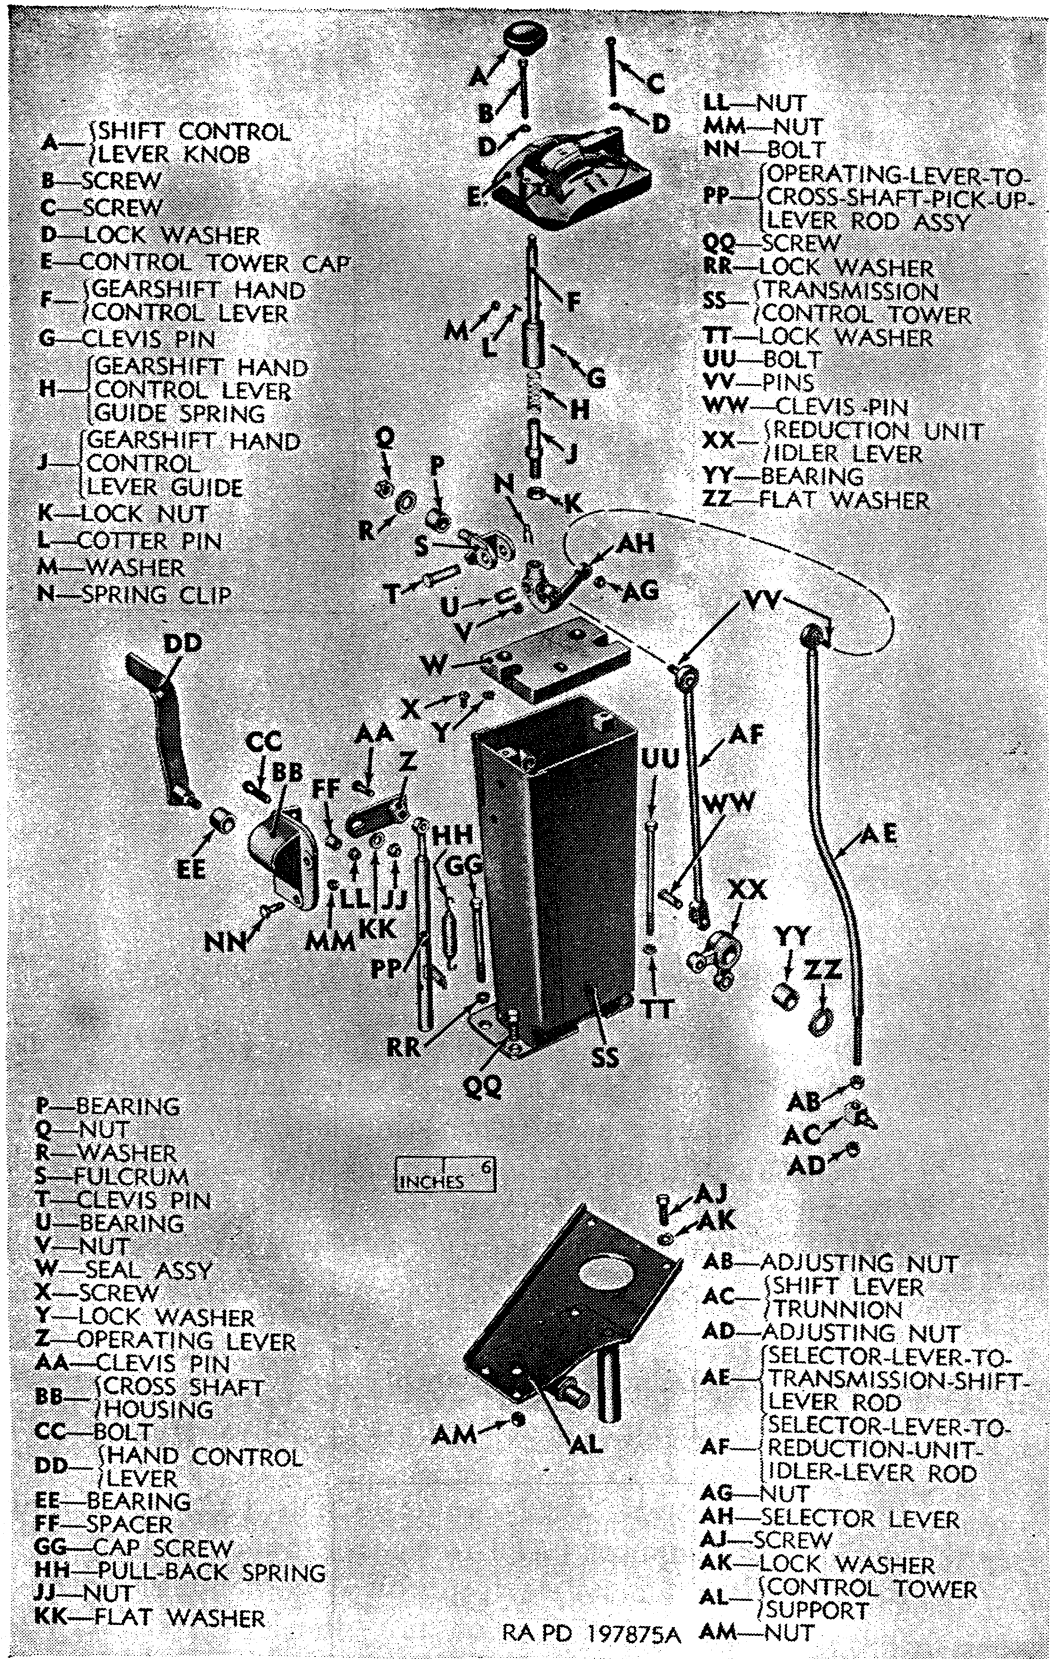
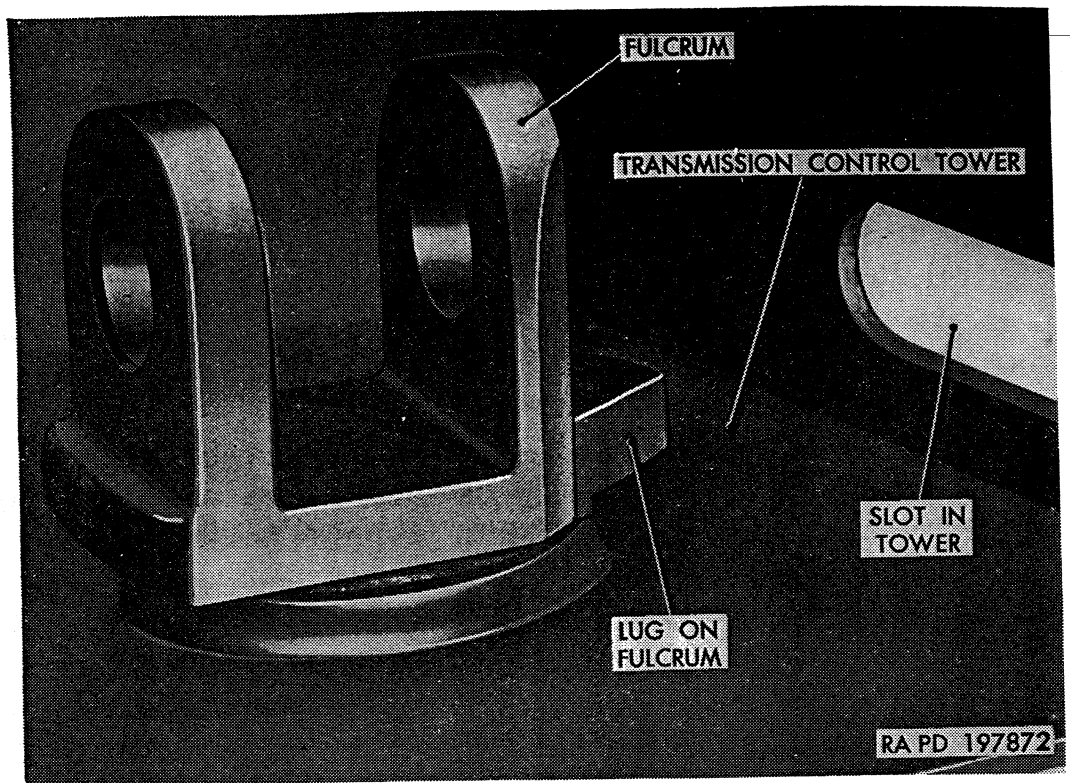

Figure 201. Control tower components.
Figure 204. Positioning lug on fulcrum.
- (d) Attach reduction unit control rod (L) to reduction unit idler lever (M) with clevis pin and cotter pin. Adjust rod if necessary (par. 202c).
- (e) Attach transmission shift lever trunnion (F) to transmission shift lever (H) with  $\frac{5}{16}$ -24 safety nut (G) and 0.083-inch thick lockwasher. Adjusting nuts (E) (par. 202c).
*Note.* The key letters noted in parentheses are in figure 201.
- (1) Remove transmission control tower assembly from vehicle (a(1) above).
- (2) Remove two screws (QQ) and two nuts (AM) attaching control tower support (AL) to control tower (SS).
- (3) Remove cotter pin and clevis pin (WW) attaching transmission-selector-lever-to-reduction-unit-idler-lever rod (AF) to idler lever (XX); then remove tower support (AL) from control tower (SS).
- (4) Remove cotter pin and flat washer (ZZ) attaching reduction unit idler lever (XX) to control tower support (AL); then remove idler lever from support.
- (23) Remove gearshift hand control lever guide (J) and gearshift hand control lever guide spring (H) from gearshift hand control lever (F).
- (24) Remove nut (Q), washer (R), and fulcrum (S) from control tower (SS). Remove bearing (P) from control tower (SS) only if inspection shows necessity for replacement.
- (25) Remove two screws (X) and lockwashers (Y) attaching seal assembly (W) to control tower (SS). Remove seal assembly from control tower.
*c. Assembly (fig. 201).*
- (1) Position seal assembly (W) in transmission control tower (SS) and attach with two  $\frac{1}{4}$ -28 x  $\frac{3}{8}$  cross-recess screws (X) and  $\frac{1}{4}$ -inch lockwashers (Y). Tighten screws.
- (2) If bushing-type bearing (P) was removed from control tower (SS), tap new bearing into place in tower, using plastic hammer.
- (3) Install fulcrum (S) in control tower (SS), attaching to tower with  $\frac{17}{32}$ -inch plain washer (R) and  $\frac{1}{2}$ -20 safety nut (Q). Tighten nut.
*Note.* Install fulcrum with lug on fulcrum aligned with slot in control tower as shown in figure 204.